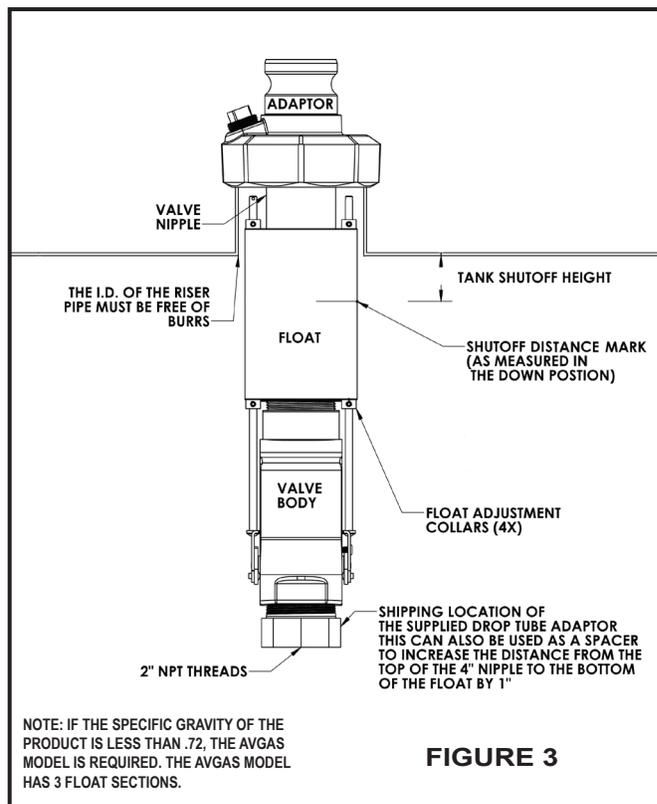

FIGURE 3
5. Move your float into the up position. Now the line that you marked on the float (Step 2) is at the point where the valve will shut off during the filling process. Measure from the line on the float all the way up to the point where the valve will thread onto the piping. We will call this Length X (See Fig. 3). Record this length.
6. Now you can make piping adjustments to insure that the line on the float will be in the tank at your desired shut off point when the unit is installed into the tank. To make these adjustments you can lengthen the valve by adding a coupling between the valve nipple and adaptor (see Fig. 3) or change your riser distance. Lastly, you can make minor adjustments by moving the floats up or down. To do this loosen the allen screws on the float adjustment collars, shown in Fig. 3, move the floats up or down, and then tighten the allen screws.